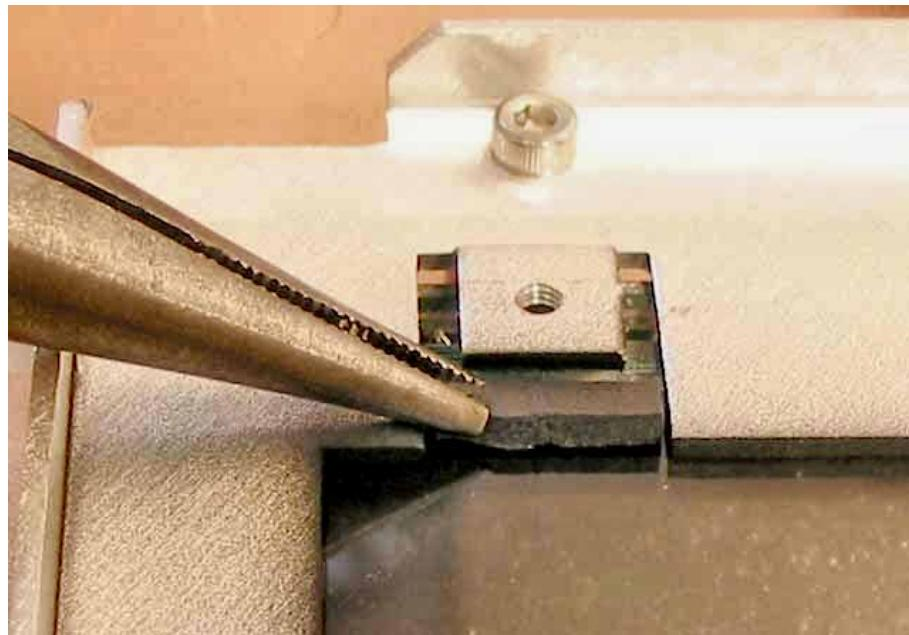
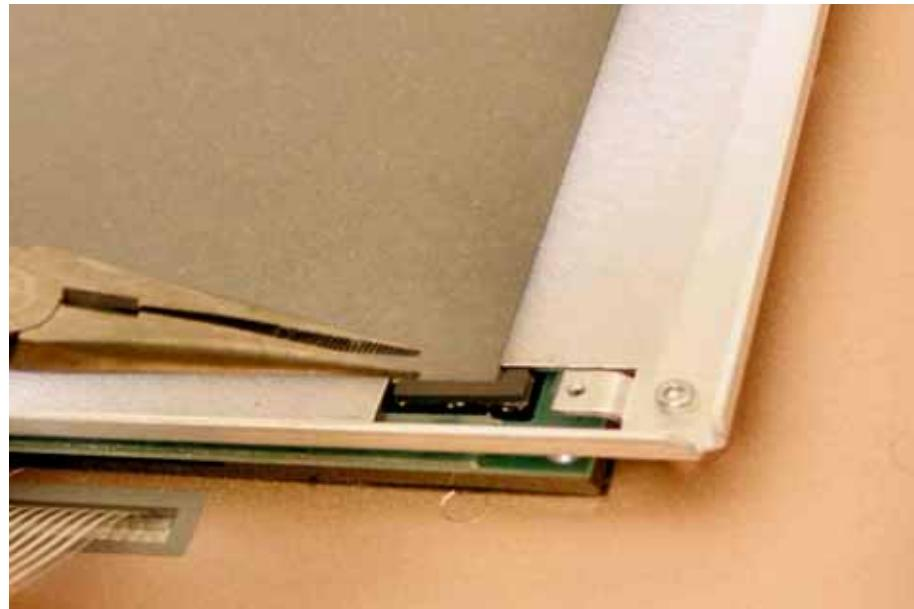

Figure 10-10: Installing the GUI Dust Gaskets
Figure 10-11: Installing the GUI Dust Gaskets
4. Place the four foam pieces on the LCD (Figure 10-10 and Figure 10-11).